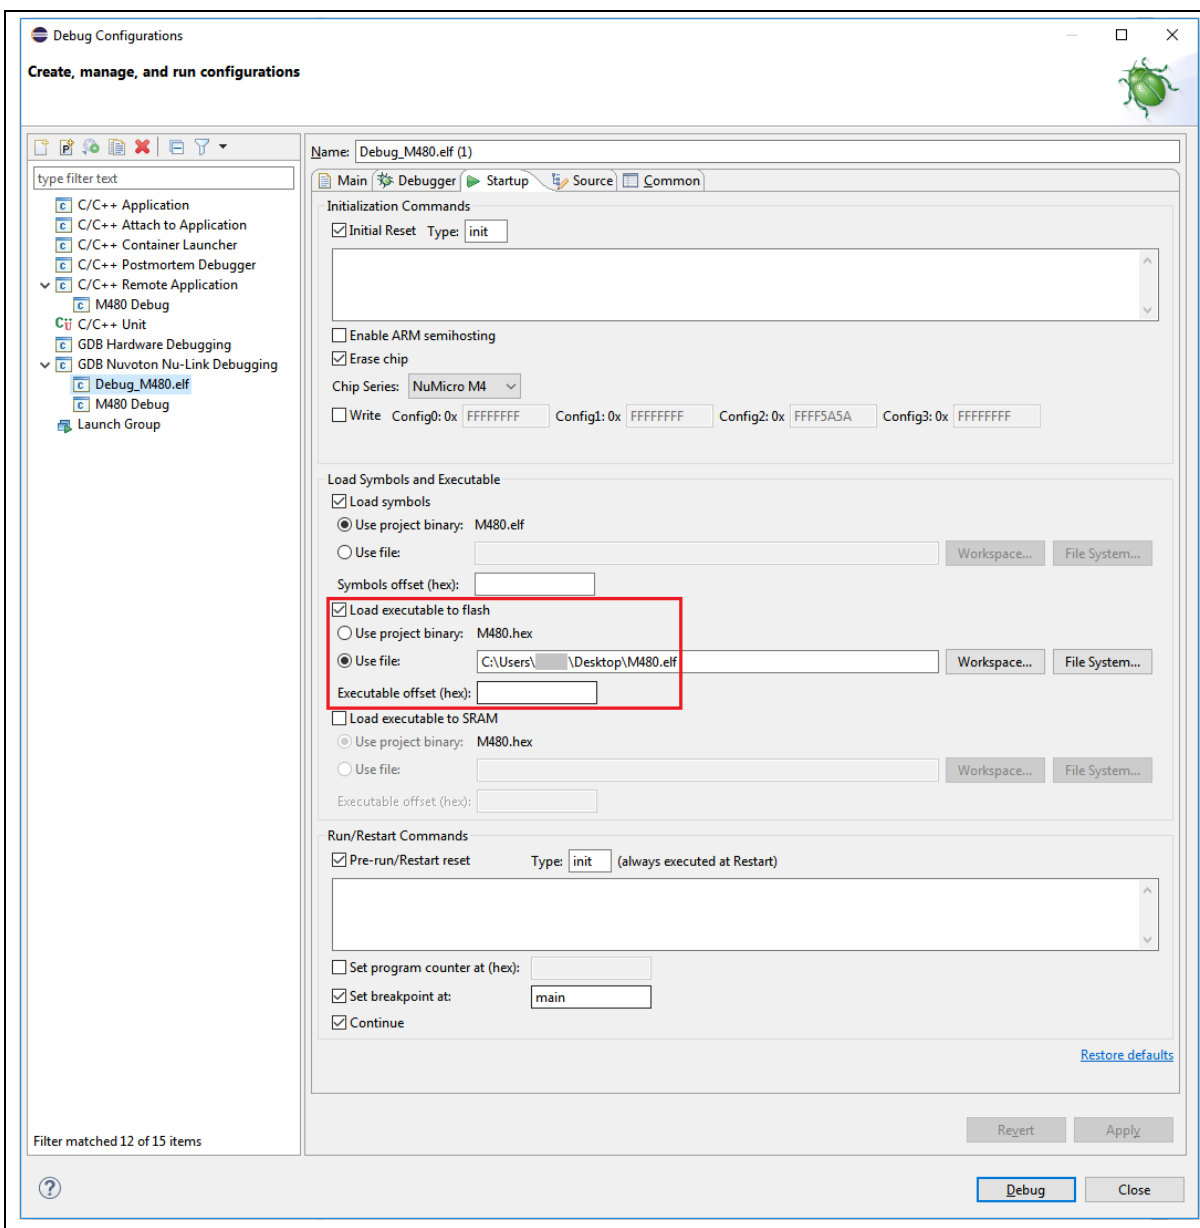

Figure 4-30 Choosing the ELF File to Download
5. Choose the ELF file to download in the debug configuration (referring to Figure 4-30).